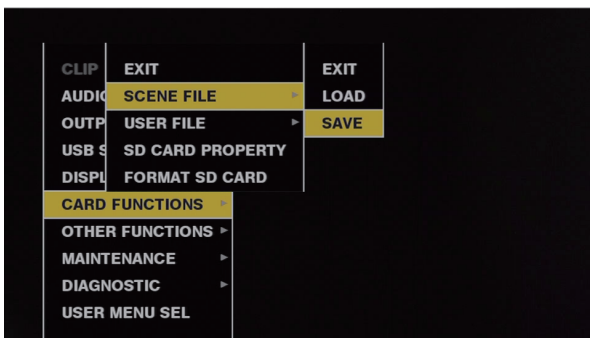

Fig. 1
- 1 Select **[SAVE]** in the main menu → **[CARD FUNCTIONS]** → **[SCENE FILE]**. (Fig. 1)